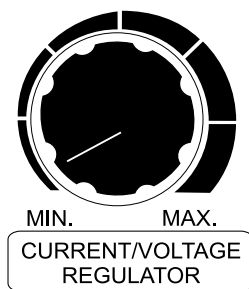

Figure 37. Current/Voltage Regulator Control Knob (Current Adjust)
4. Next, set the current/voltage regulator control knob (Figure 37) in accordance with the selected electrode size as referenced in Table 18.